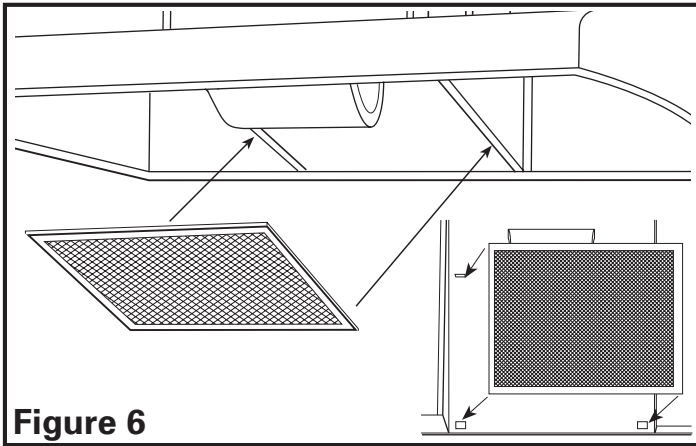

Figure 6
1. Install the appropriate filter sliding the back side of the filter into the tab and pressing the front of the filter into place (**Figure 6**).